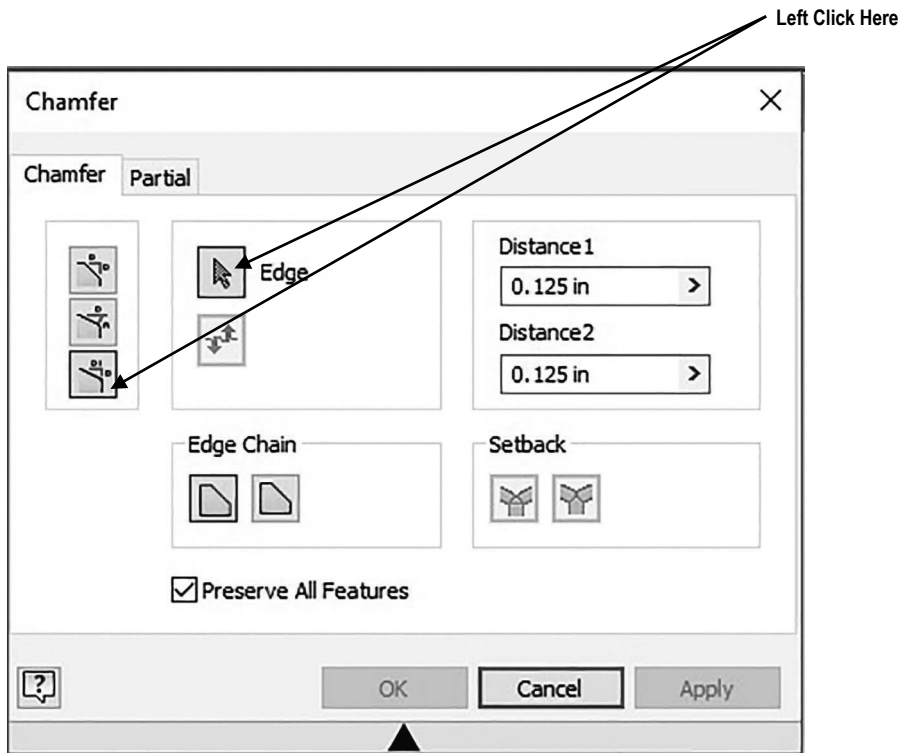

Figure 3
5. After selecting **Chamfer**, the Chamfer dialog box will appear. Left click on the **Edge** icon. Left click on the “Two Distance Chamfer” icon as shown in Figure 3.